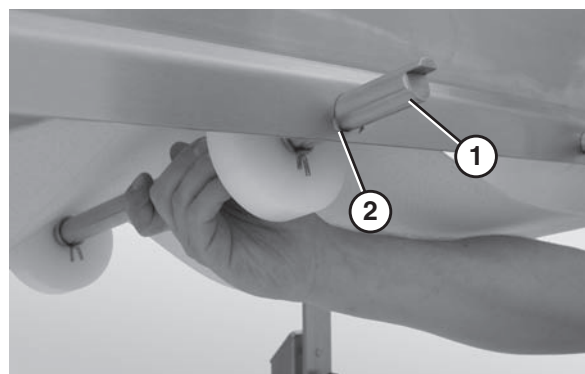

Figure 24
1. Slide the return shaft (**Figure 24, item 1**) up and through the large slot (**Figure 24, item 2**) in the frame.